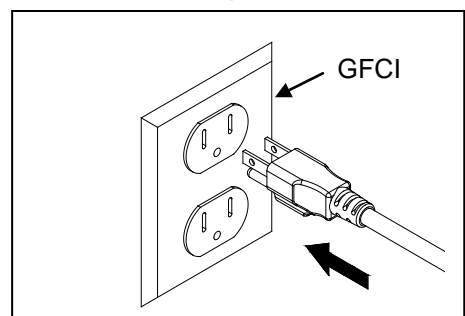

Fig. 15
15. Connect pump to a proper power source. Fig. 15